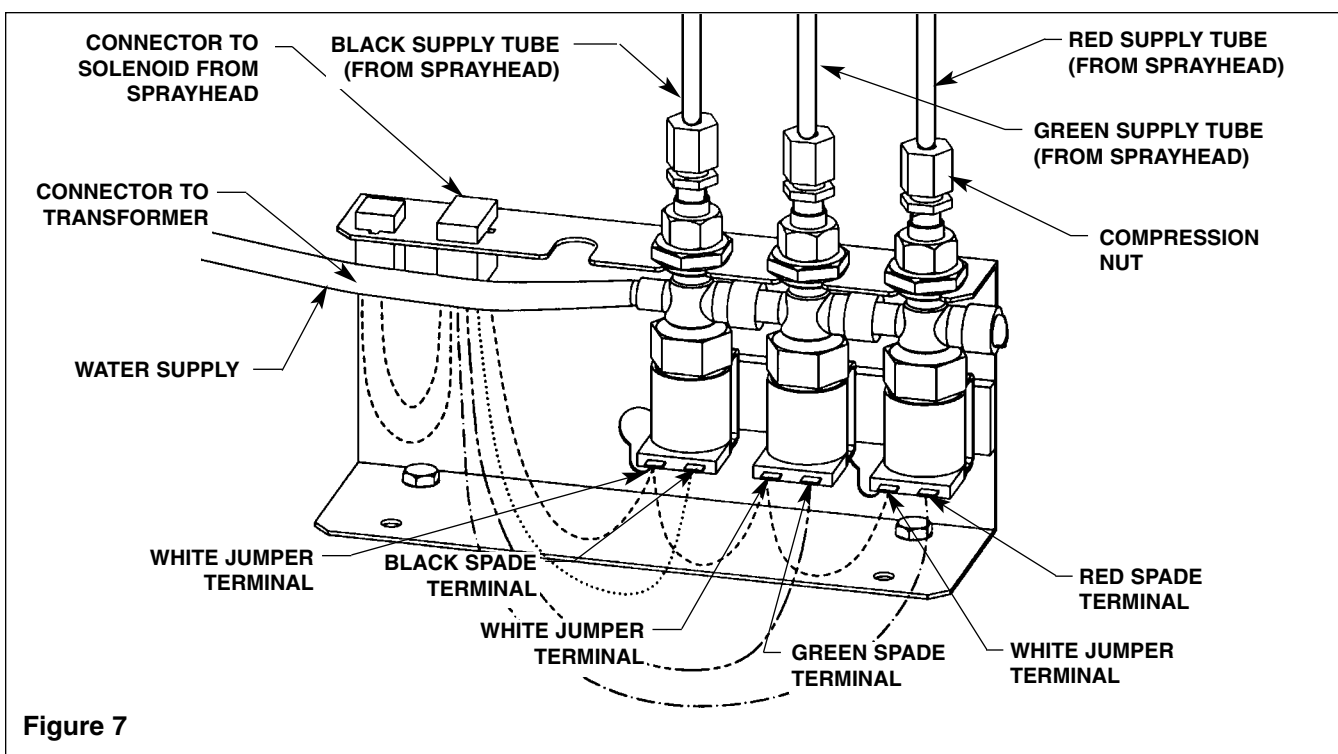

Figure 7
3. Insert the three sprayhead supply tubes into the three solenoid tube connectors by loosening the compression nut and firmly pushing the tubing into the tube connector until the tubes are fully seated, then re-tighten the compression nut hand-tight plus two turns with a wrench. (see Figure 7).